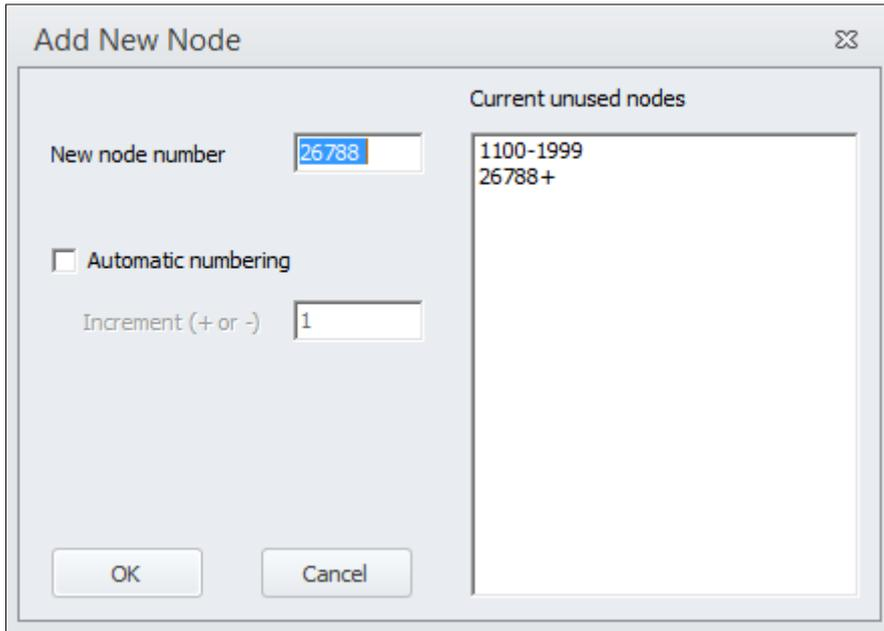

Figure 55 The Add New Node window.
- 10) Click on “Yes” and then select a node value greater than 2000 (values between 1120 and 1999 are only for terminals and zones), see Figure 55